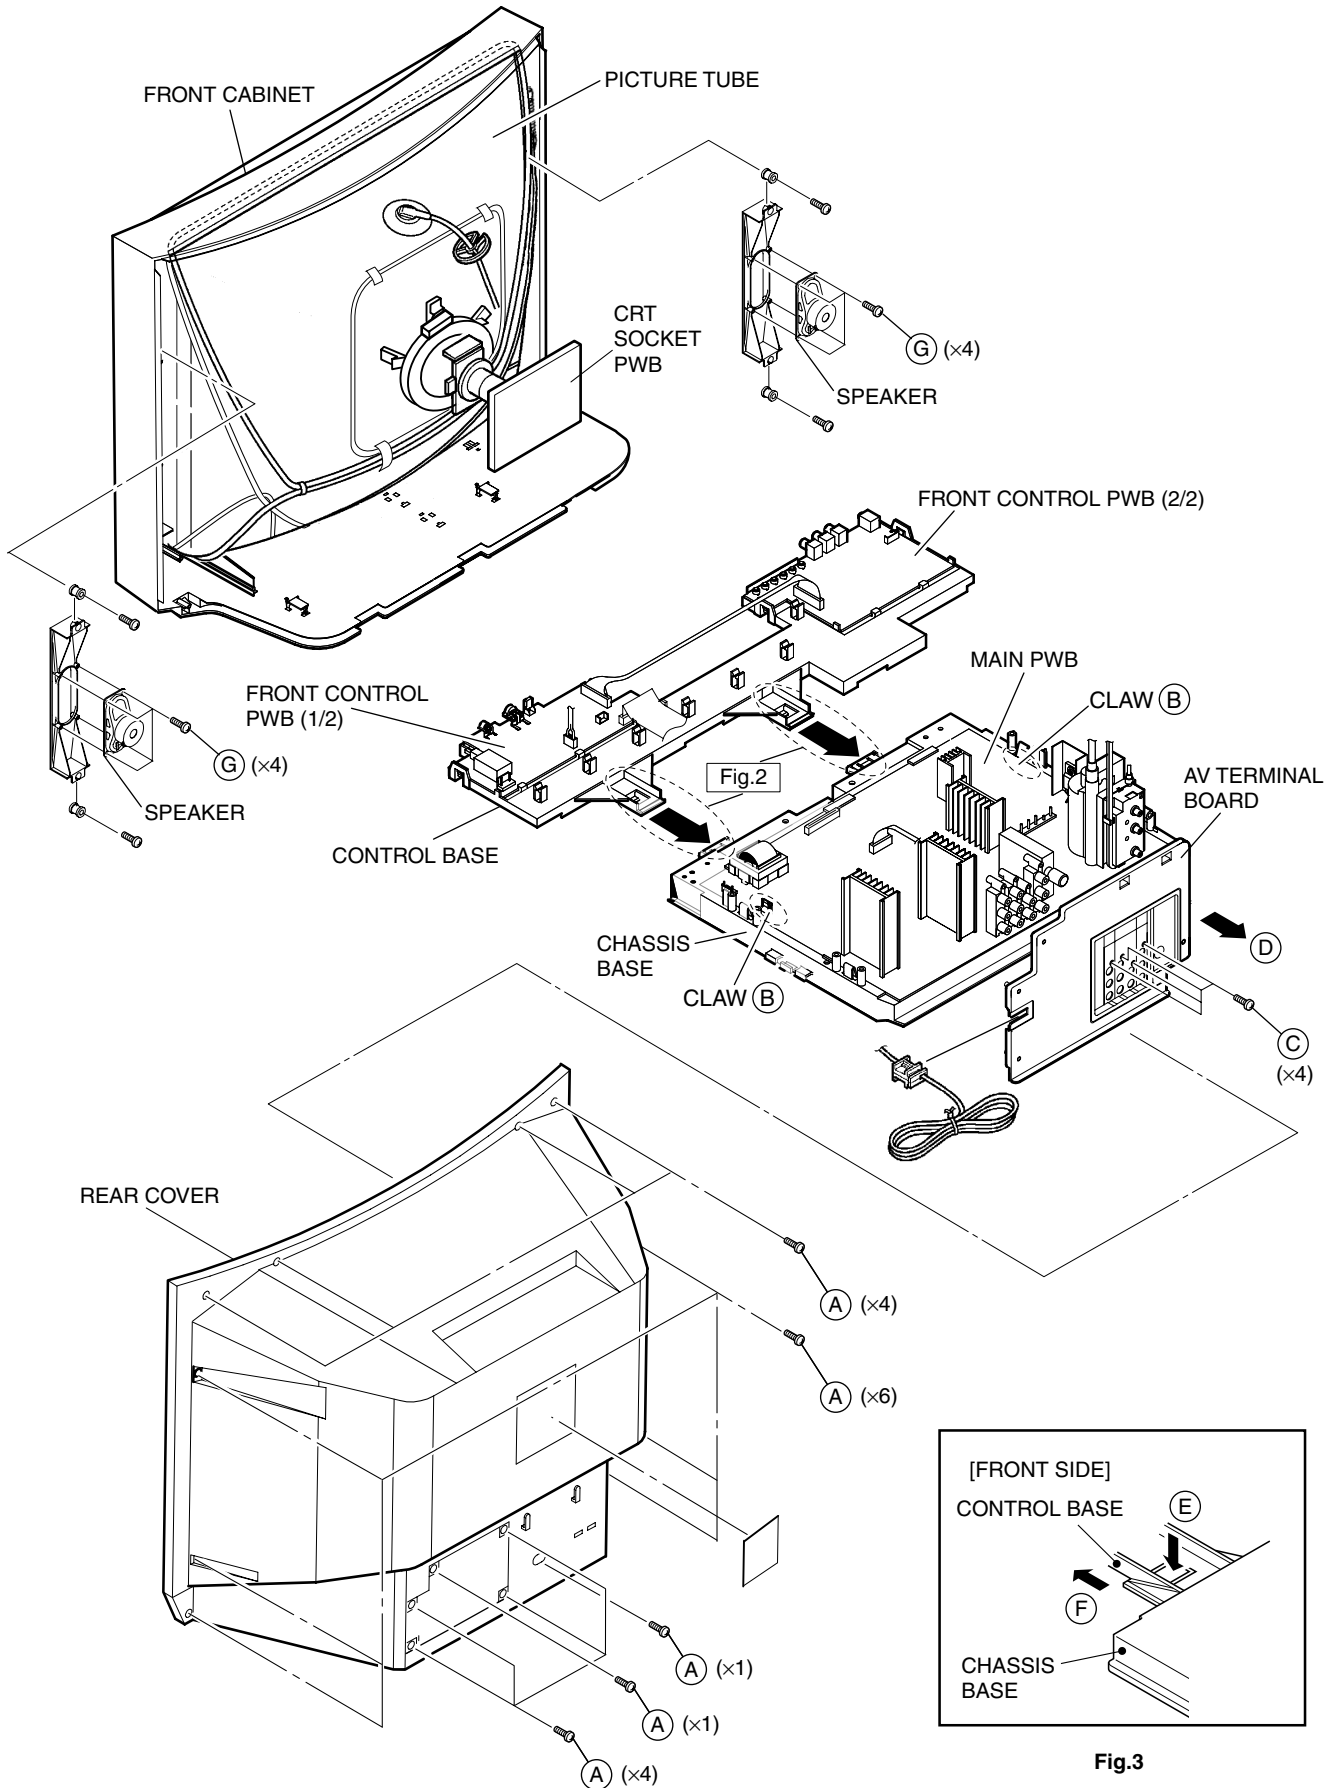

Fig.2
1. Slightly raise the both sides of the chassis by hand and remove the 2 claws marked (B) under the chassis from the front cabinet as shown in Fig.2.
1. Remove the 4 screws marked (C) as shown in Fig.2.
2. When you pull out the AV Terminal board in the direction of arrow marked (D) as shown in Fig.2, it can be removed.
1. Remove the 4 screws marked (G) as shown in Fig.2.